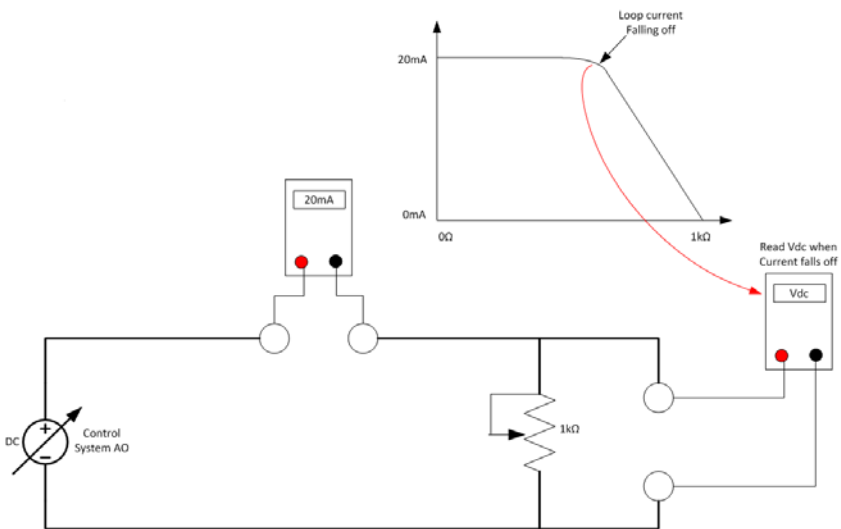

Figure 27 Compliance Voltage Test Set-Up
1. Configure a test setup as in Figure 27.